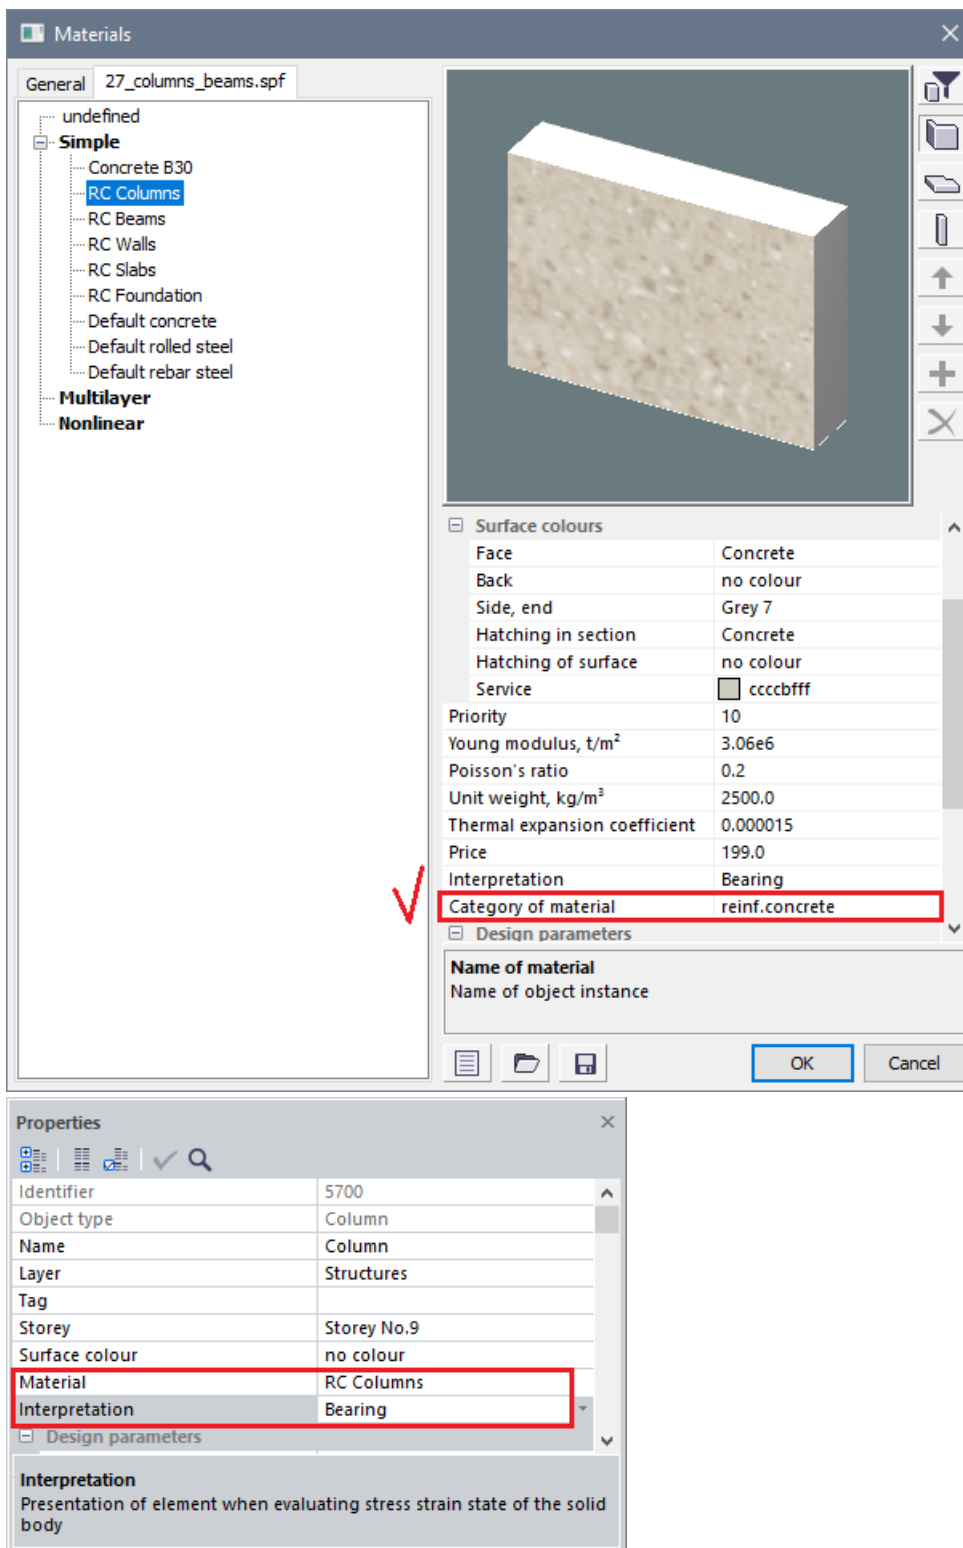

Figure 27.1. Required min data to analyse reinforcement and design columns and beams
3. **Material** for columns and beams should be defined as **Reinforced concrete** (it is defined in the **Materials** dialog box - see Fig.27.1);